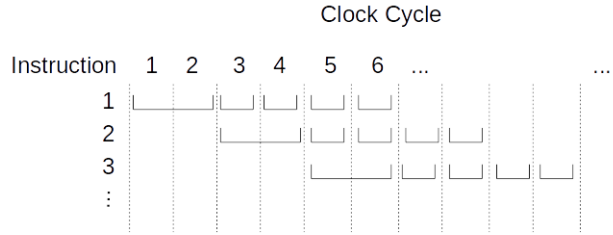

Figure 1: The pipeline execution diagram with the first stage running  $r \cdot t$  units.
*More generally, Equation (1) is a necessary and sufficient condition for the tasks  $i, i + 1, \dots, i + s - 1$  to experience full occupancy together for a period of time given by  $\tau$ . Therefore, full occupancy happens (from time to time) if and only if Equation (1) holds. Consequently, if  $r$  is sufficiently large, full occupancy never happens, see Figure 1.*